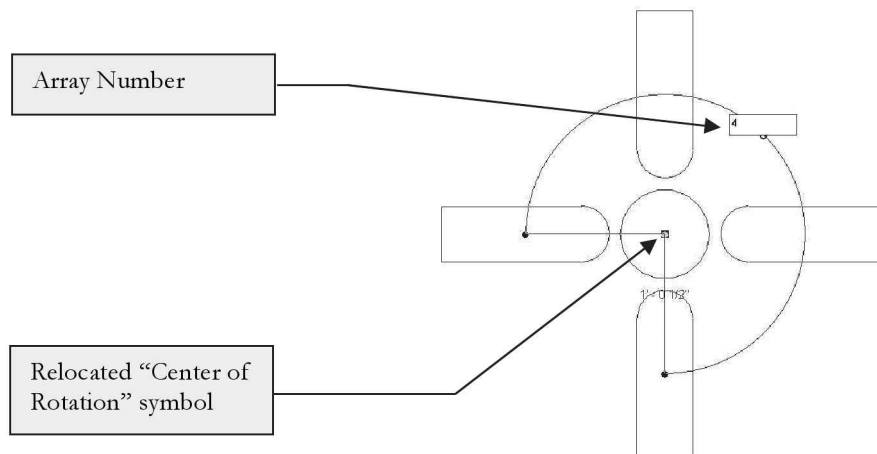

FIGURE 4-2.19 Arraying fan blades
76. Click **Radial** on the *Options Bar* and then click and *drag* the **Rotation icon** to the center of the 8" circle; make sure Revit snaps to the center point before clicking (see Figure 4-2.19).